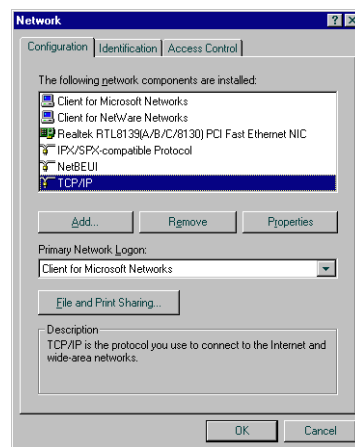

Figure 10. Network Screen
1. Connect your laptop to the TCP/IP card as shown in Figure 9 above. Go to your laptop's Control Panel folder and doubleclick the 'Network' icon to display the Network screen (Figure 10)